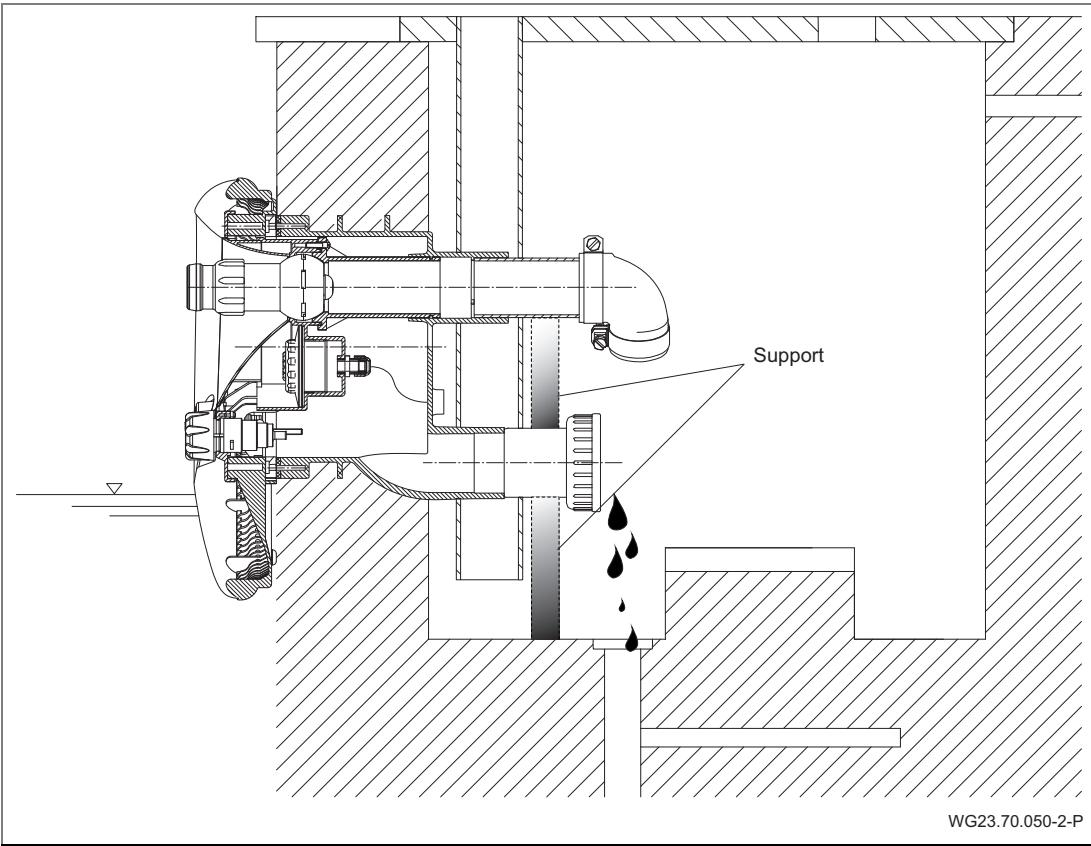

Fig. 28
- 3. Support the suction and pressure lines to relieve them. See "Fig. 28" on page 46.